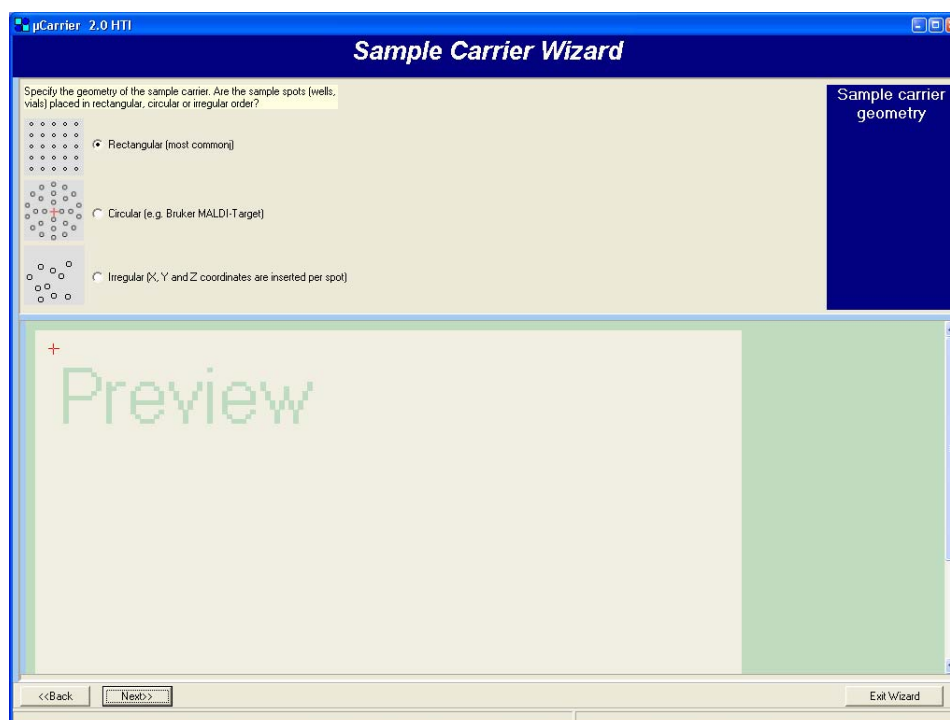

FIGURE 2-24 Sample Carrier Wizard - Sample Carrier Geometry
- e) In the next step the sample carrier geometry and the orientation of the spots relative to each other are specified (FIGURE 2-24). Select the 'rectangular option' and confirm with the **Next** button.